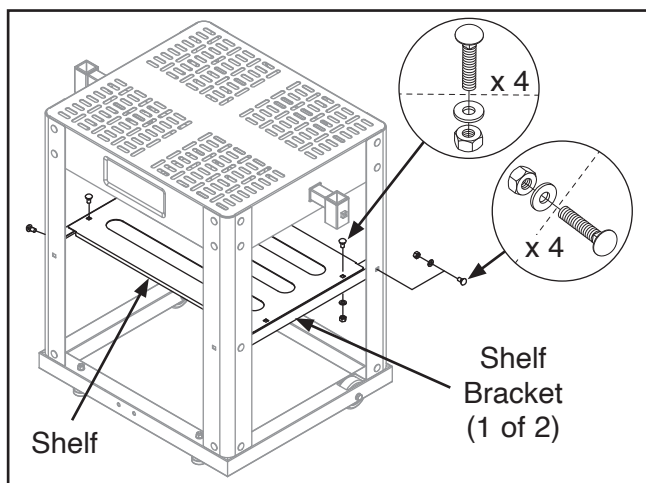

Figure 6. Shelf brackets and shelf installation.
8. Attach (2) shelf brackets, each with (2) M8-1.25 x 16 carriage bolts, 8mm flat washers, and M8-1.25 hex nuts (see **Figure 6**).
9. Attach shelf to shelf brackets with (4) M8-1.25 x 16 carriage bolts, 8mm flat washers, and M8-1.25 hex nuts (see **Figure 6**).